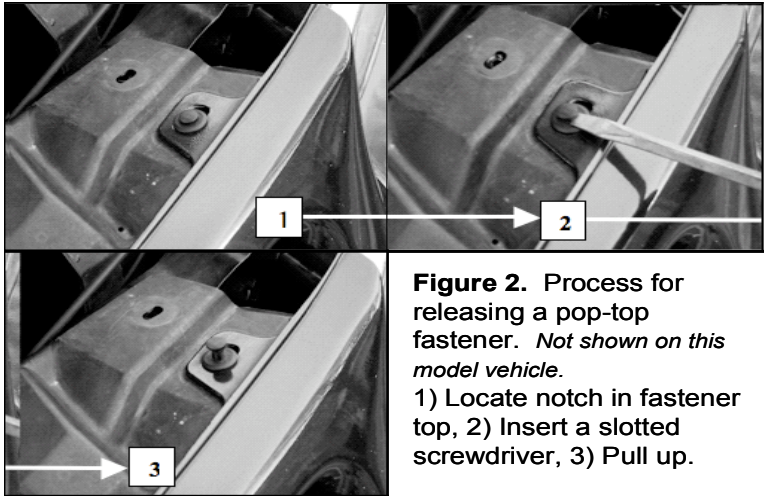

Figure 2. Process for releasing a pop-top fastener. *Not shown on this model vehicle.*
1.2) Remove the pop-top fasteners. There is a series of 6 “pop-top” fasteners that run along the top of the bumper. When removed, you will be able to pull the bumper away from the vehicle which will gain the needed access to remove the old grilles. To remove these fasteners insert a slotted screwdriver or a pair of needle-nose pliers between the fasteners’ top and bottom. You will see a notch on the outside ring where you will be able to pry up the inner ring. Once you have lifted the inner ring about an inch, the fastener will pull out easily. See **Fig 2**.